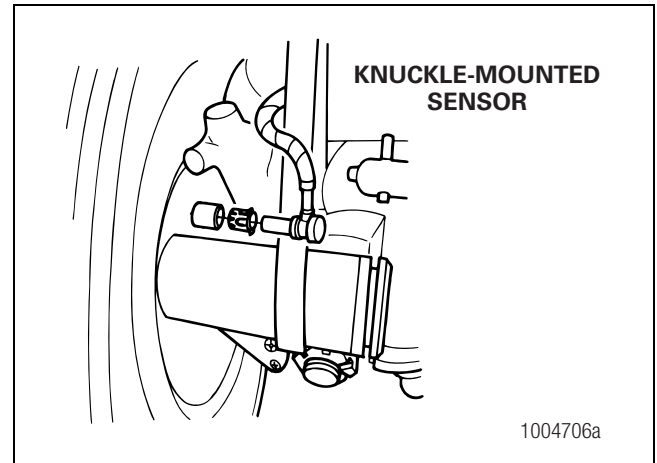

Figure 3.1
4. Remove the sensor from the sensor holder. Twist and pull the sensor to remove it from the sensor bracket. **Do not pull on the cable. Figure 3.1.**
7. Fasten the sensor cable every 12 inches. Correctly bundle and store any excess cable in the sub-frame. Figure 3.1.